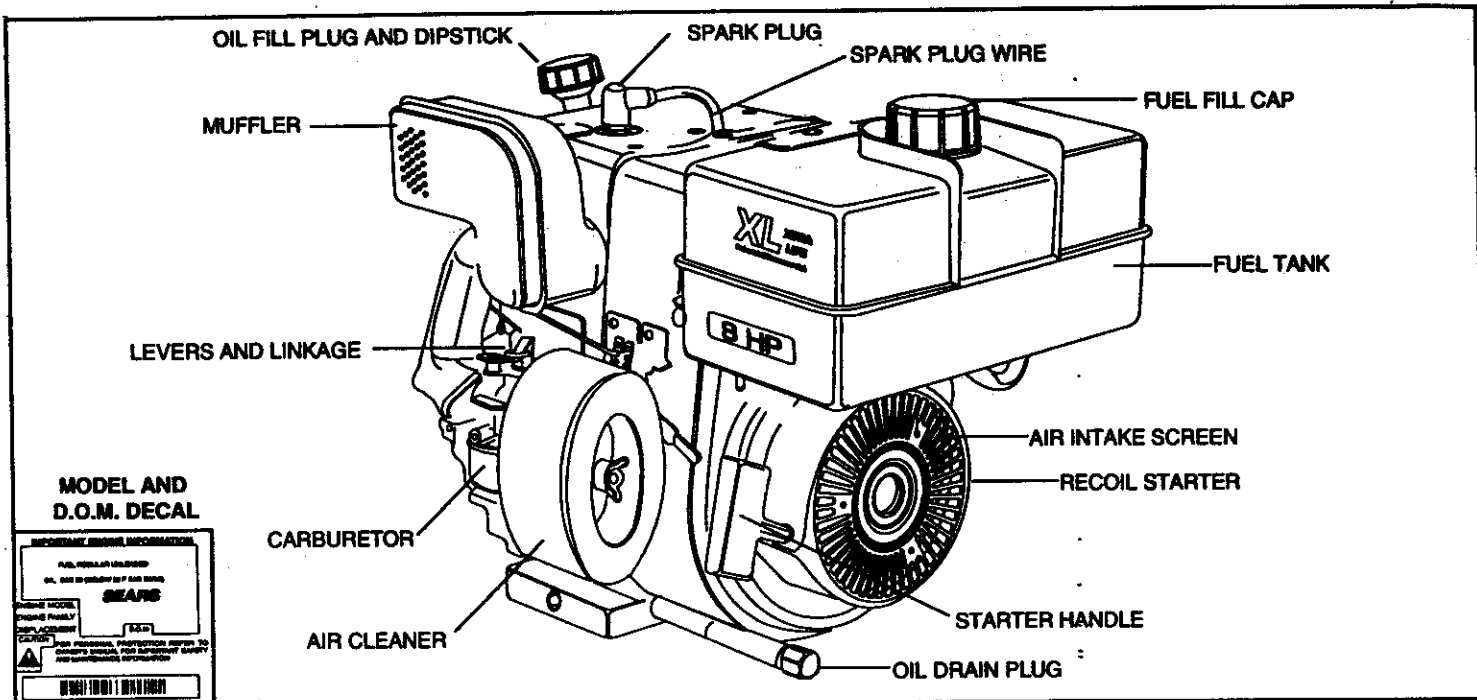

Figure 1
- ① **READ ALL INSTRUCTIONS PROVIDED WITH THE EQUIPMENT ON WHICH THIS ENGINE IS USED.**
- ② **CHECK OIL LEVEL:**
- B. Clean area around oil fill plug (see Figure 1).
④ CHECK THE FOLLOWING:
- B. Be sure spark plug wire is attached to spark plug (see Figure 1).
- C. Be sure stop switch (see Figure 1) next to spark plug is not contacting spark plug.
- ① Move equipment control or any ignition stop switch on engine to STOP or OFF (see equipment manufacturer's instructions).
- ② Push stop switch (see Figure 1) located next to spark plug on engine against spark plug and hold it in this position until engine is completely stopped.
- ③ **AFTER ENGINE IS STOPPED:**
- A. Position equipment so engine oil drain plug is lowest point on engine (see Figure 1).